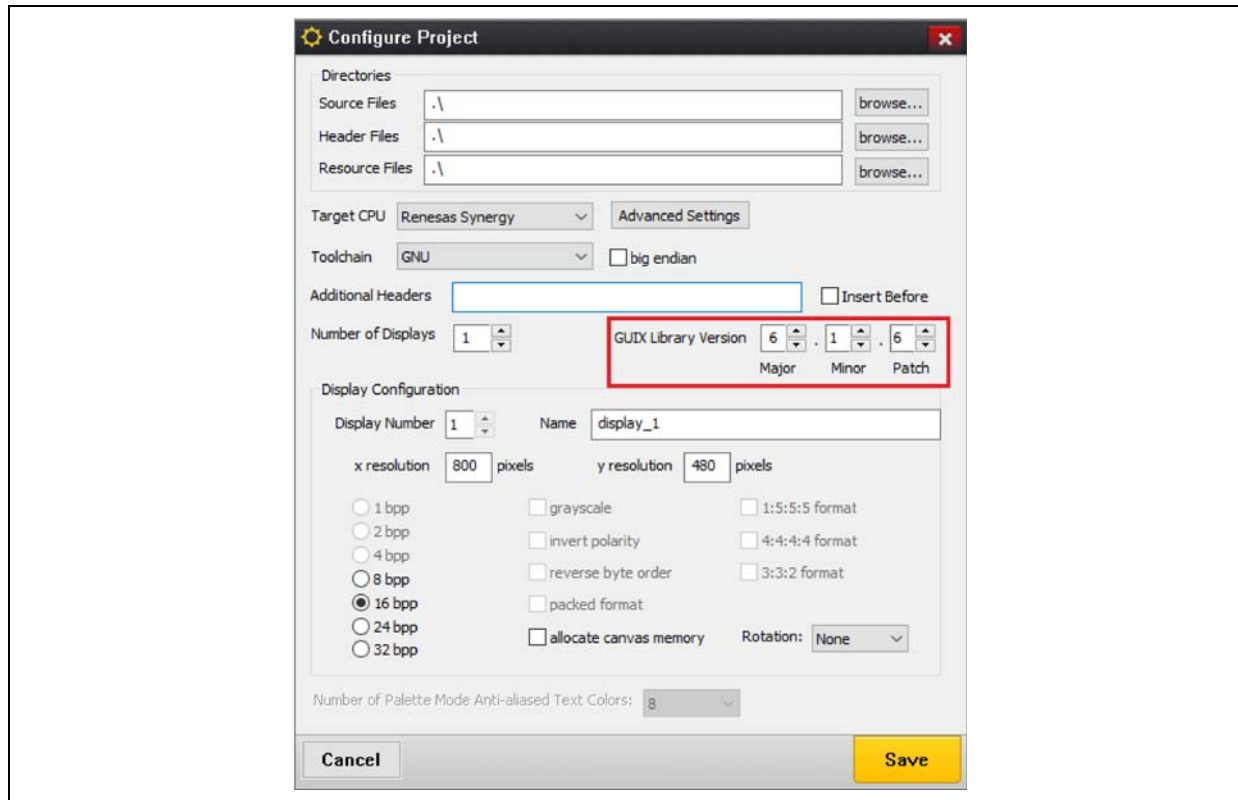

Figure 3. Configure Project Window
- Set the **GUIX Library** version option to 6.1.6 or later as shown in Figure 3.